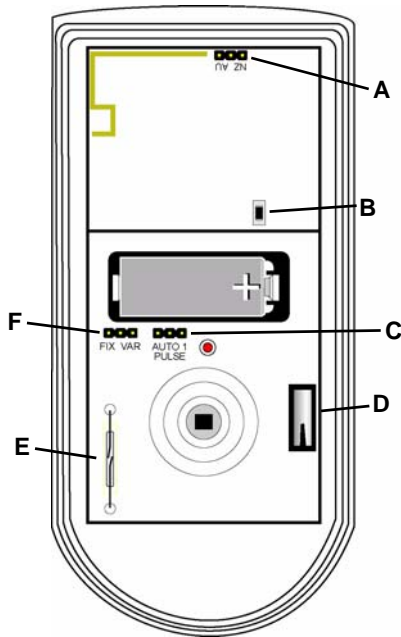

Figure 1 EN1260 components
1. Place a selection jumper on the appropriate frequency band selection pins (Fig. 1).